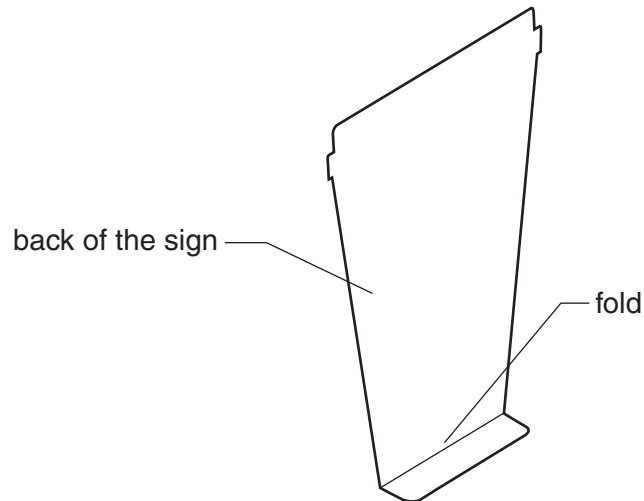

Fig. 4
- (e) The base of the sign is folded backwards as shown in Fig. 4.